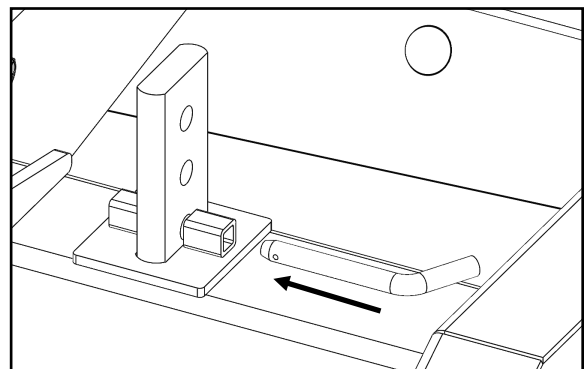

Fig. 17 (Upper link with top link pin and bushing)
17. Slide the Scarifier up through the rectangular opening and insert a bent clevis pin as shown in Figure 17. Secure with the hairpin cotter.